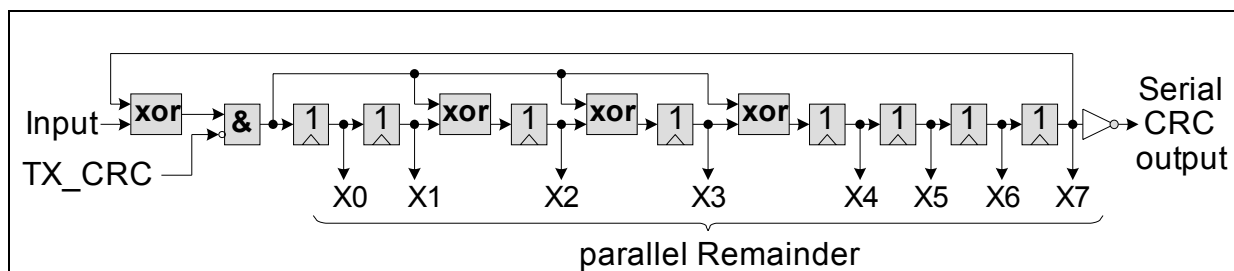

Figure 13 Fast CRC Polynomial Division Circuit
- Generator Polynomial: $X^8+X^4+X^3+X^2+1$, the fast CRC generation circuit is used for CRC generation. (See Figure 13)
Figure 13 shows the fast CRC Polynomial.